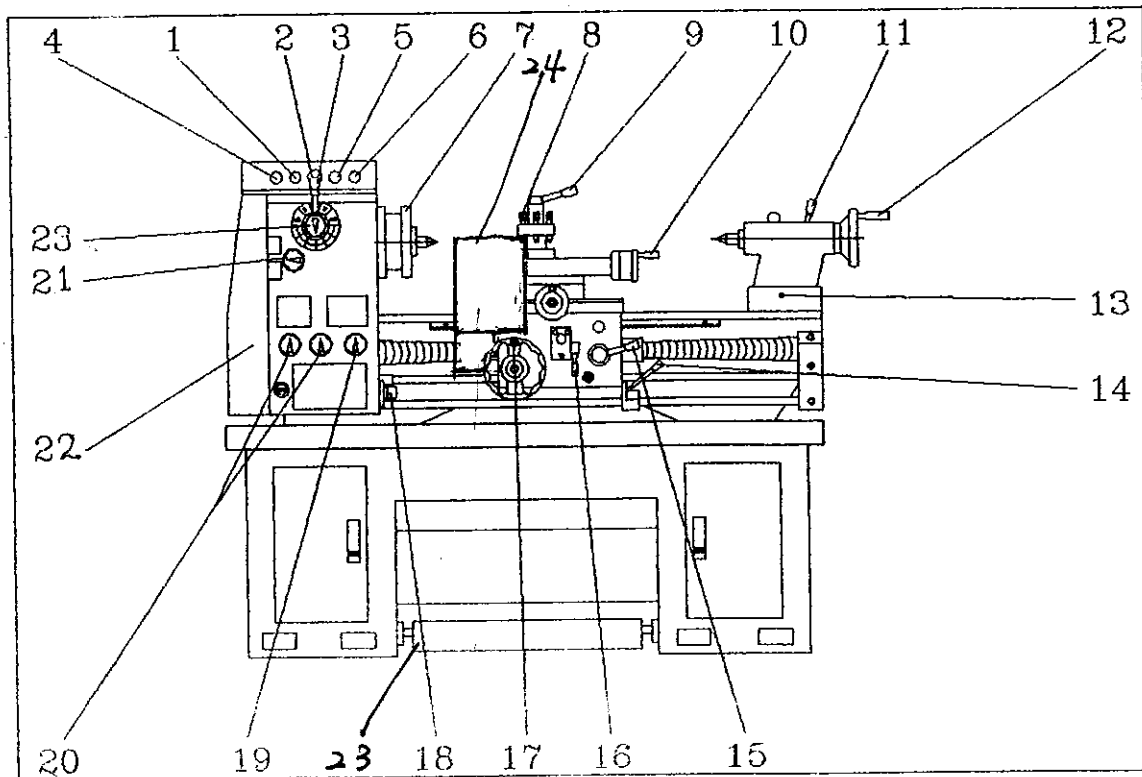

FIG. 6
1. SLIDE THE CARRIAGE NEAR TO HEADSTOCK (FIG. 6 -1).
2. LET CABLE THROUGH THE HANGER (FIG. 6-B), THE OTHER SIDE OF CABLE IS HOOKED UP. (FIG. 6-2)
- (1) RETURN THE SPINDLE CONTROL LEVER TO THE NEUTRAL POSITION. (14 IN FIG., 6)
- (2) PRESS EMERGENCY TO STOP. (5 IN FIG. 6)
- (3) SWITCH OFF THE KEYSWITCH. (4 IN FIG. 6)
- (4) SWITCH MAIN ISOLATR OFF.
PULL THE SELECTIVE KNOB (14 IN FIG. 6) UP, THE MOTOR WILL BE START AND THE SPINDLE WILL GET A FORWARD ROTATION WHILE OPERATING. ON THE CONTRARY, PUSH DOWN THE SELECTIVE KNOB THE MOTOR WILL BE START AND THE SPINDLE WILL GET A REVERSE ROTATION WHILE OPERATING.
TURN THE SELECTIVE KNOB (21 IN FIG. 6) TO RIGHT POSITION, THE LEAD SCREW WILL GET A COUNTERCLOCKWISE ROTATION OR THE FEED ROD WILL GET A CLOCKWISE ROTATION WHILE OPERATING. ON THE CONTRARY, TURN THE SELECTIVE KNOB TO LEFT POSITION, THE LEAD SCREW WILL GET A CLOCKWISE ROTATION OR FEED ROD WILL GET A COUNTERCLOCKWISE ROTATION WHILE OPERATING.
FEEDS / THREADS CHANGE KNOB (19 IN FIG. 6) IS FITTED WITH THE COVER OF GEAR BOX. TURN THE CHANGE KNOB TO RIGHT POSITION, FEED ROD WILL TURN FOR FEEDING AUTOMATICALLY. TURN THE CHANGE KNOB TO LEFT POSITION, THE LEAD SCREW WILL TURN, THREADS IS READY.
BY PROPER LOCATION OF THE GEAR BOX SPEEDS CHANGE KNOB AND GEAR BOX SPEEDS SELECTIVE DISH (18,20 IN FIG. 6), INCH AND METRIC THREADS AND CORRESPONDING FEEDS ARE POSSIBLE. THE THREAD CUTTING CHARTS GIVE FULL DETAILS OF THE INCH AND METRIC THREAD AVAILABLE.
PUSH THE HALF NUT LEVER (15 IN FIG. 6) DOWN WHEN THE LEAD SCREW IS REVOLVING TO ENGAGE THE HALF NUT FOR THREADING. PULLING THIS LEVER UP WILL DISENGAGE THE HALF NUT.
THIS IS A THREE POSITION CONTROL WITH THE MIDDLE POSITION AS NEUTRAL. PUSH THE LEVER 16 IN FIG. 6) DOWN TO ENGAGE THE CROSS FEEDS AND LIFT UP TO ENGAGE THE LONGITUDINAL FEEDS.